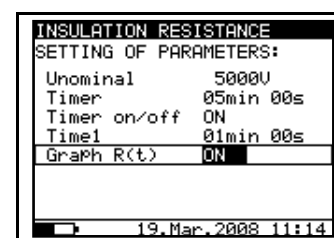

Fig. 14. Set-up menu in Insulation Resistance measurement
- Press the **SELECT** key, Set-up menu appears on display, see the **Fig. 14**.